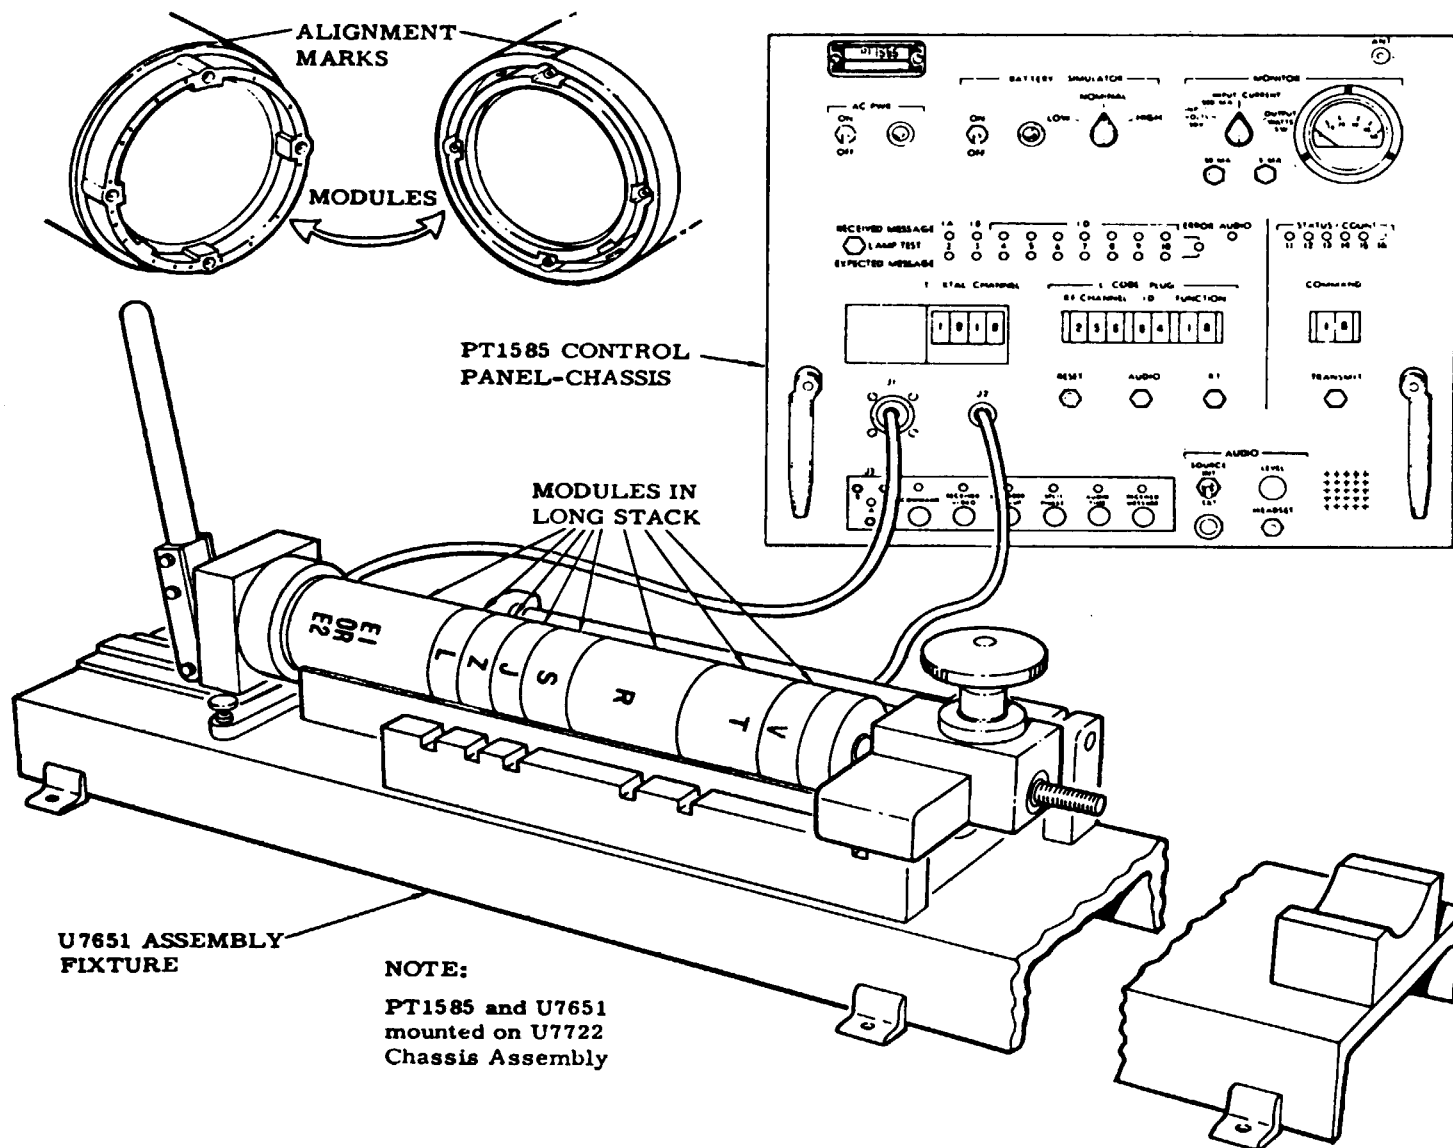

Figure 4-2. MA31 Long Stack Under Test
**4-8. ASSEMBLY OF MA31 LONG STACK (Figure 4-2).**
d. Place remaining modules in U7651 tray one at a time in the following order: E-L-Z-J-S-R-T-V (see figure 4-2). Rotate module until alignment marks on it and preceding module are aligned, then mate modules.